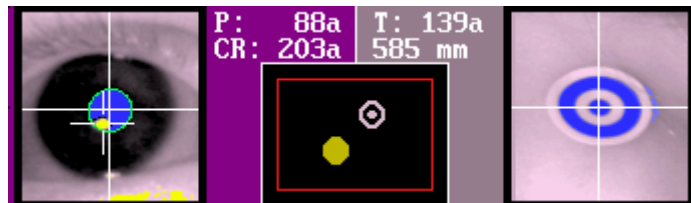

Figure 3-12: Target and Eye Positions in the Thumbnail Camera Images
18) Once the camera is set up, the experimenter should monitor the thumbnail camera images at the lower left corner of the tracker screen when in the Offline, Calibrate, Validate, Drift Correct, Output and Record screens (see Figure 3-12). The two dots in the middle panel reflect the ever changing target and eye positions in the global camera image. For reliable tracking, both dots should stay within the red box. If they fail to do so, adjustment of the camera's view of the subject is advised.